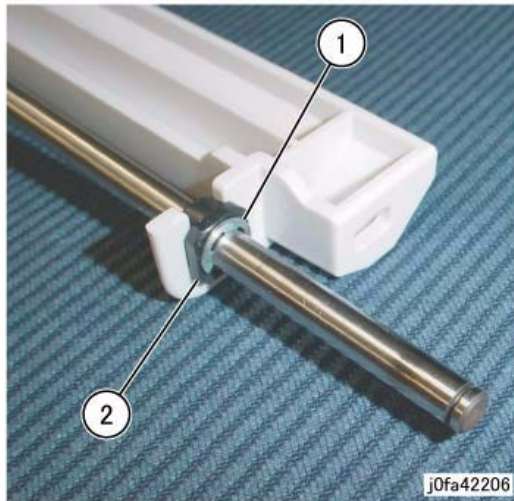

Figure 6 Removing Bearing (0fa42206)
8. Remove the Bearing. (Figure 6)